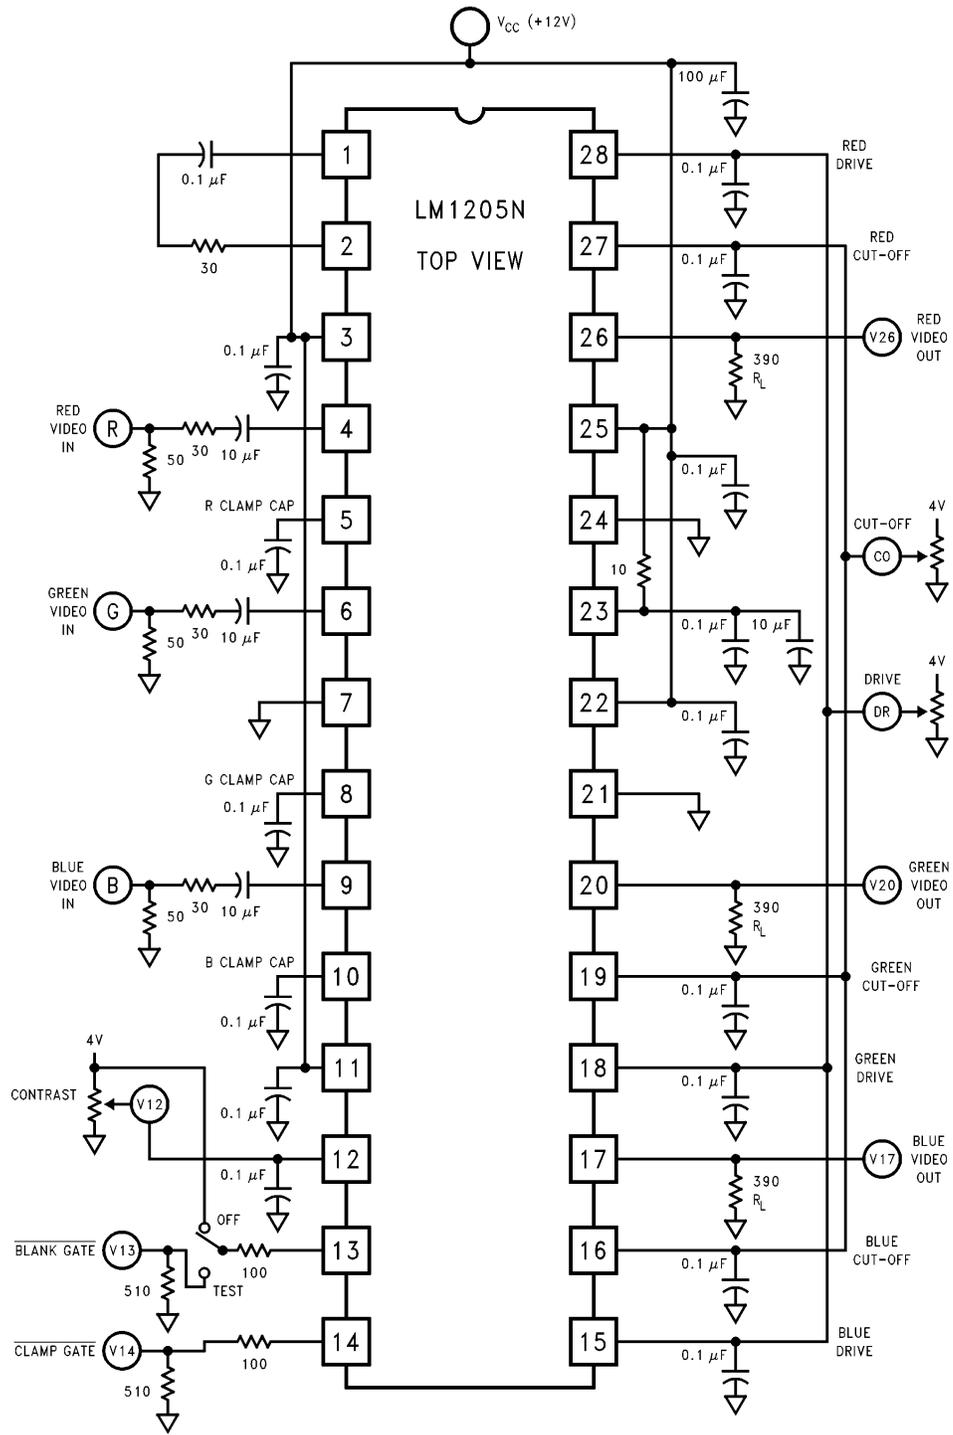

FIGURE 2. LM1205N DC Test Circuit
**DC Electrical Characteristics** See DC Test Circuit (Figure 2),  $T_A = 25^\circ\text{C}$ ;  $V_{CC1} = V_{CC2} = 12V$ .  $V_{I2} = 4V$ ;  $V_{I4} = 0V$ ;  $V_{cut-off} = 1.0V$ ;  $V_{I3} = 4V$ ;  $V_{drive} = 4V$  unless otherwise stated.
**Note 7:** The supply current specified is the quiescent current for  $V_{CC1}$  and  $V_{CC2}$  with  $R_L = \infty$ , see Figure 2's test circuit. The supply current for  $V_{CC2}$  (pin 23) also depends on the output load. With video output at 1V DC, the additional current through  $V_{CC2}$  is 8 mA for Figure 2's test circuit.